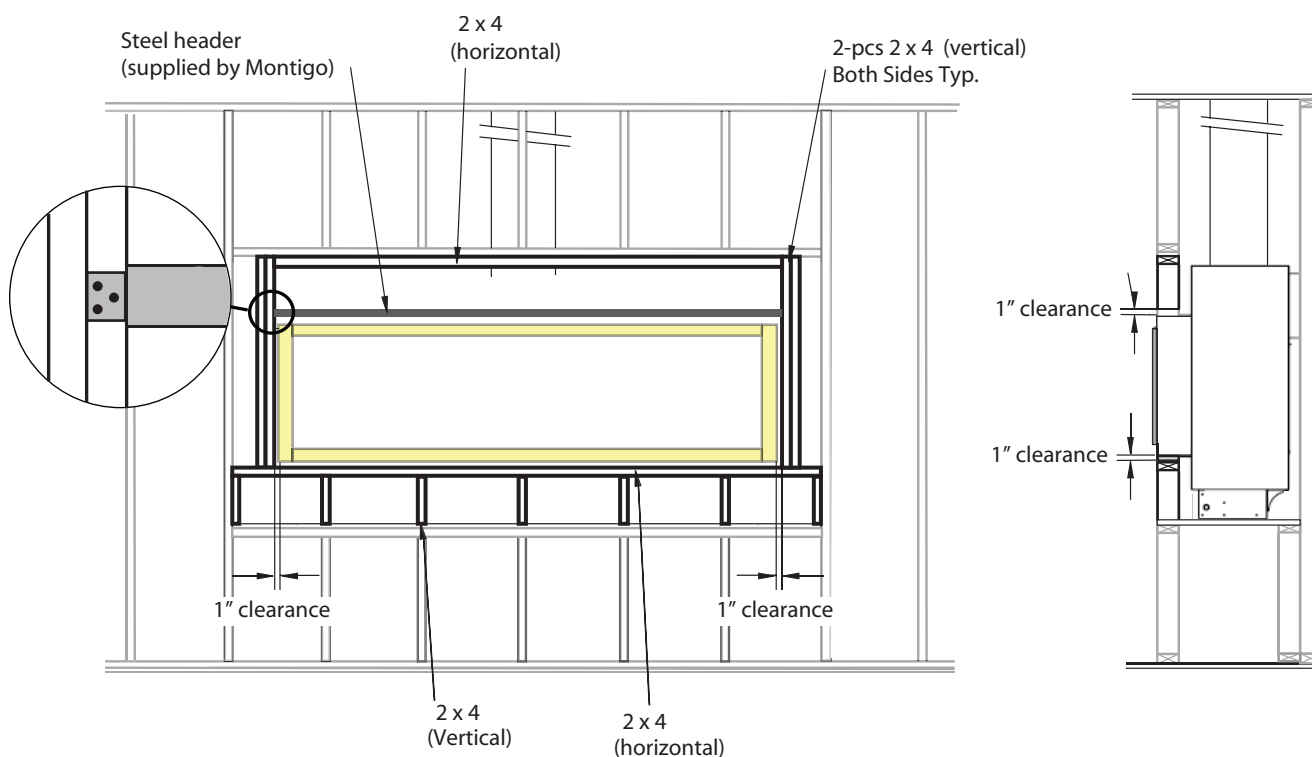

Figure 5. Completed back frame Fireplace installation
Step 4). Install supplied steel header 1" above the throat. Attach steel header to vertical 2x4's as shown in **figure 5**.